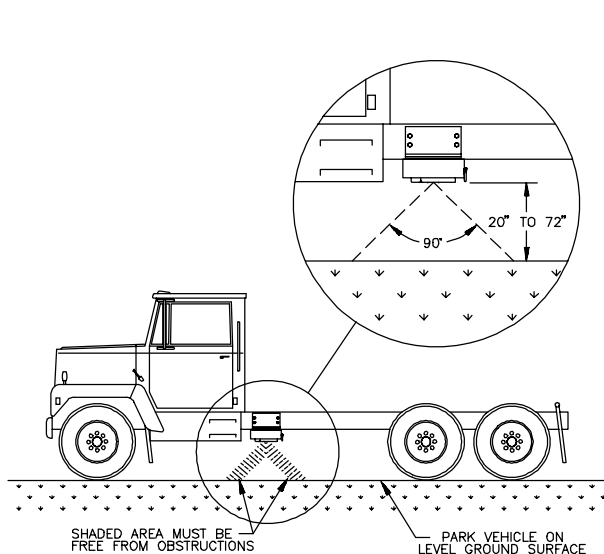

FIGURE 1
- a) The line of sight from the lens to the ground must not be obstructed by structures or tires. Road surface must not come closer than 20 inches to the bottom of the Radar. See Figures 1 and 2.